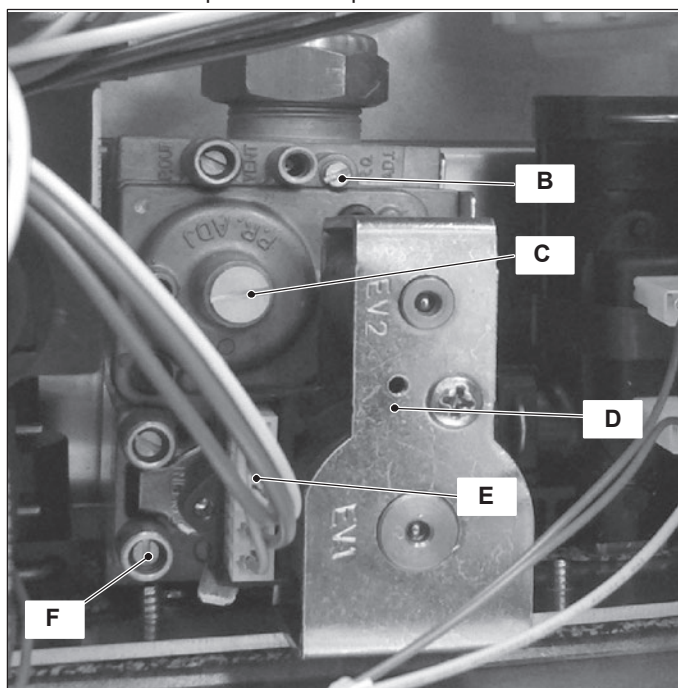
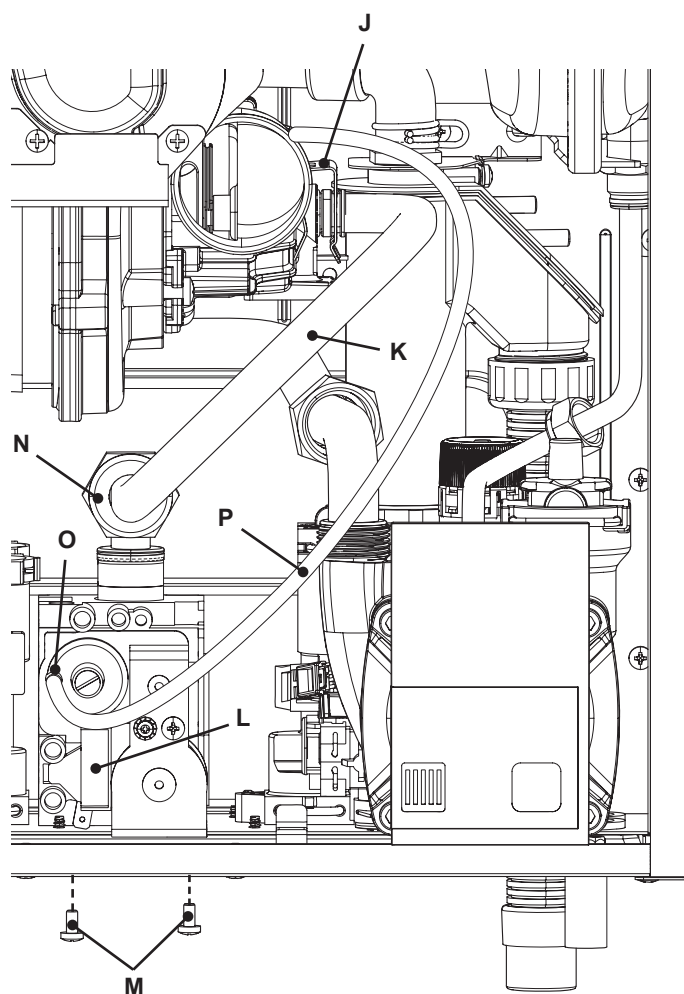

Figure 11.2
Figure 11.12
(Figure 11.2)
- 3 Loosen the internal screw on the Inlet Pressure Test Point "F" (Figure 11.2) of the Gas valve and connect a pressure gauge using a suitable hose.
- 10 Disconnect the pressure gauge and close the Inlet Pressure Test Point "F" (Figure 11.2).
it and rotate the Allen key screw Ø 4 mm ("C" - Figure 11.2) (by rotating it clockwise the CO₂ % increases).
To adjust the CO₂ % value rotate screw ("B" - Figure 11.2) (by rotating it clockwise the CO₂ % decreases).
27 After adjustment fit the protective brass plug ("C" - Figure 11.2).
- 2 Disconnect the electrical connector "E" (Figure 11.2).
- 2 Disconnect the connector "L" (Figure 11.12), see also connector "E" (Figure 11.2).
- 4 Using pliers, remove the spring "O" and the rubber pipe "P" (Figure 11.12).
- 5 Unscrew the connector "N" (Figure 11.12), remove the fixing fork "J" and remove the pipe "K".
- 6 Unscrew the screws "M" and remove the valve (Figure 11.12).